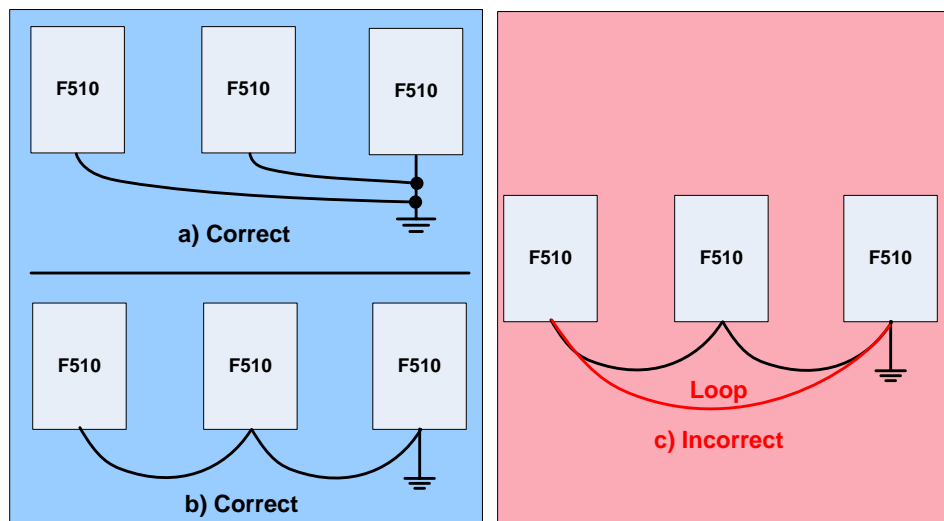

Fig. 3.12.1 Inverter Grounding
1. Connect the ground terminal (E) to ground having a resistance of less than 100Ω.
4. When using more than one inverter, be careful not to loop the ground wire. See exampled below in Fig. 3.12.1.